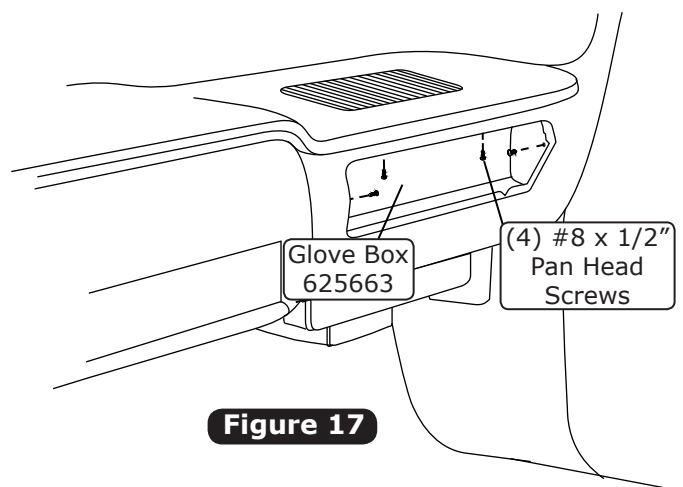

Figure 17
5. Install the glove box using (4) #8 x 1/2" pan head screws (See Figure 17, below).